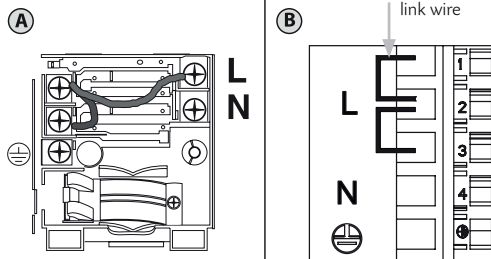

Fig.3
4. Check that the brass link wires have been fitted inside the terminal block as shown in figure 3